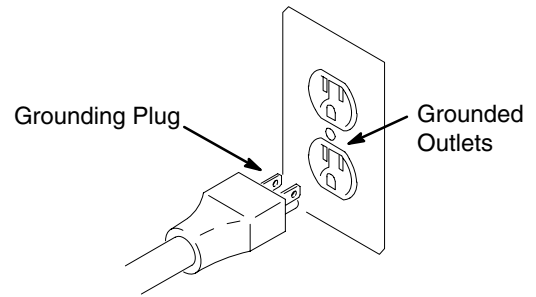

Fig. 2
1. All models require a 60 Hz, 15A circuit with a 120 Vac grounding receptacle. See Fig. 2.